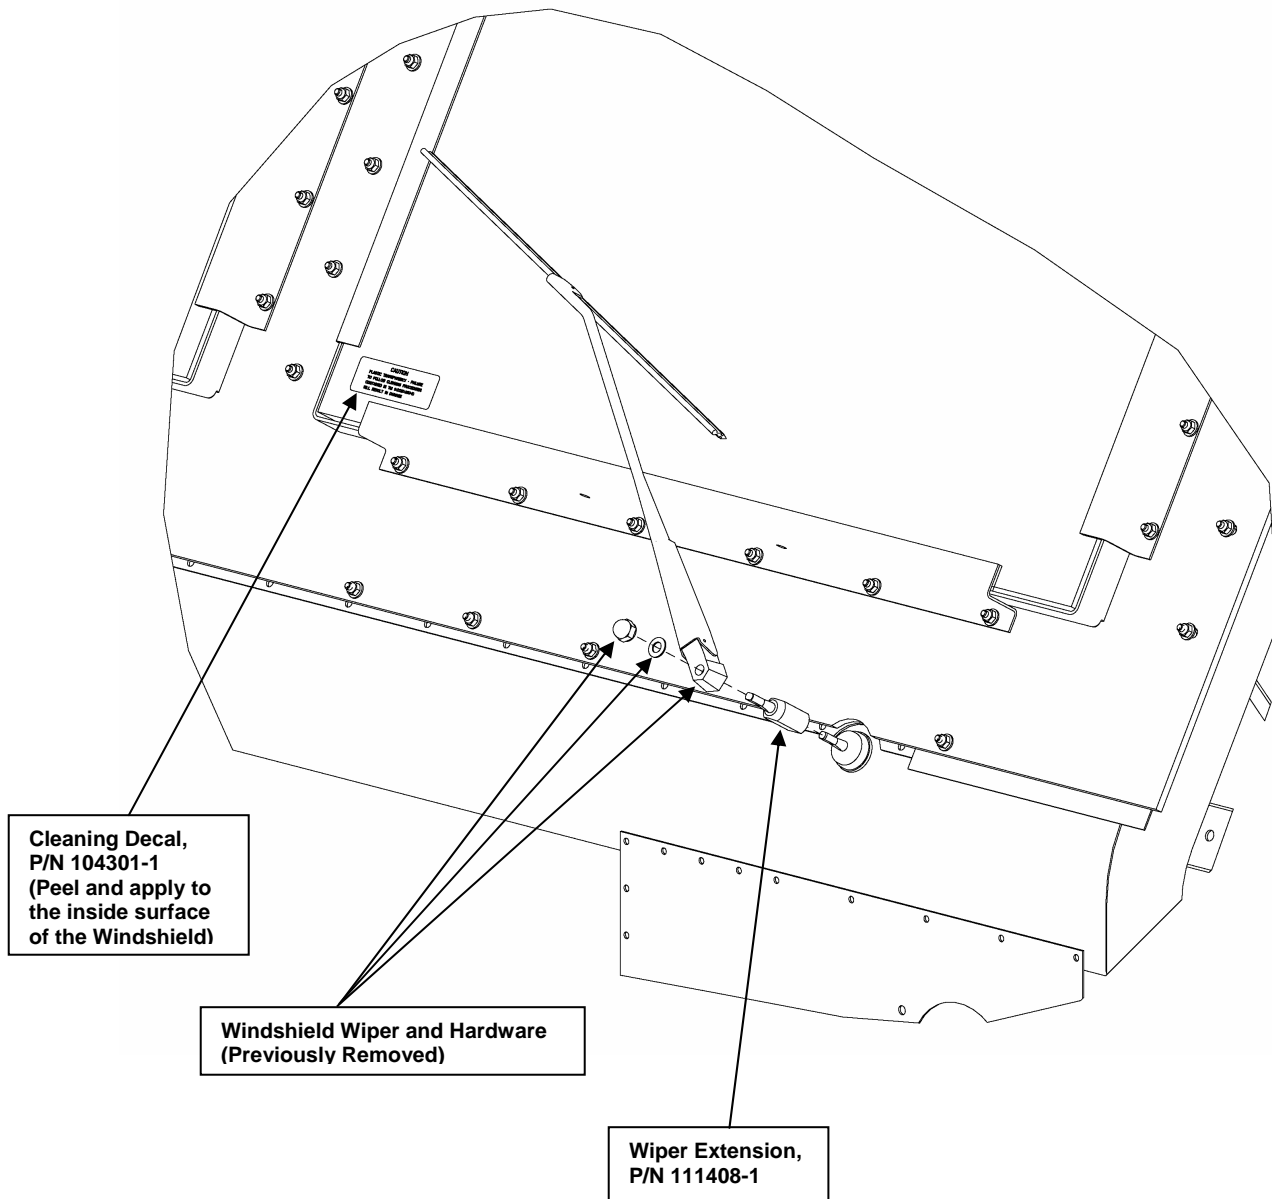

Figure 22. Windshield Wiper and Cleaning Decal installation.
- t. If this is the first time the Windshield Armor has been installed on a vehicle, apply the Cleaning Decal (P/N 104301-1) to the lower left hand corner of the Windshield Armor (see Figure 22) so that it does not obstruct the driver's / passenger's view. Remove the protective covers from the transparencies.
- u. Install the Wiper Extension (P/N 111408-3) by threading the part fully onto the wiper shaft and locking it in place using the set screw located on the side of the Wiper Extension (see Figure 22). Re-attach the Windshield Wiper and Hardware that was previously removed. Reconnect the wiper fluid hose to its nodule. Adjust the wiper as necessary for correct arm travel.